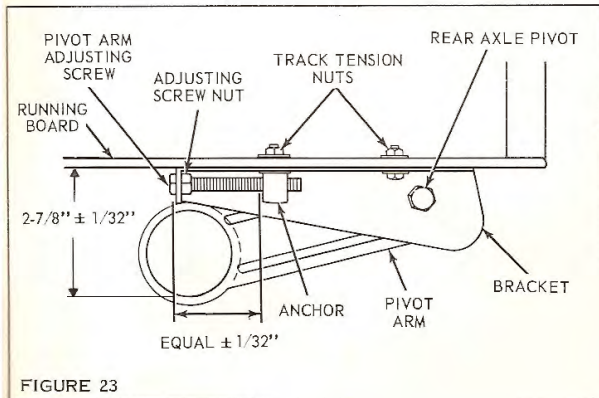

FIGURE 23
Proper track tension is essential to keep sprocket and track wear at a minimum. Track tension can be checked by first blocking up the snowmobile, so that the track hangs free, and placing the front edge of the skis against a stationary object. Next, measure the distance from the bottom of the pivot arm bearing bore to underside of running board as shown in Figure 23. Track tension is correct in this distance is $2-7/8" \pm 1/32"$. If track tension must be adjusted, proceed as follows:
1. Loosen track tension nuts. See Figure 23.